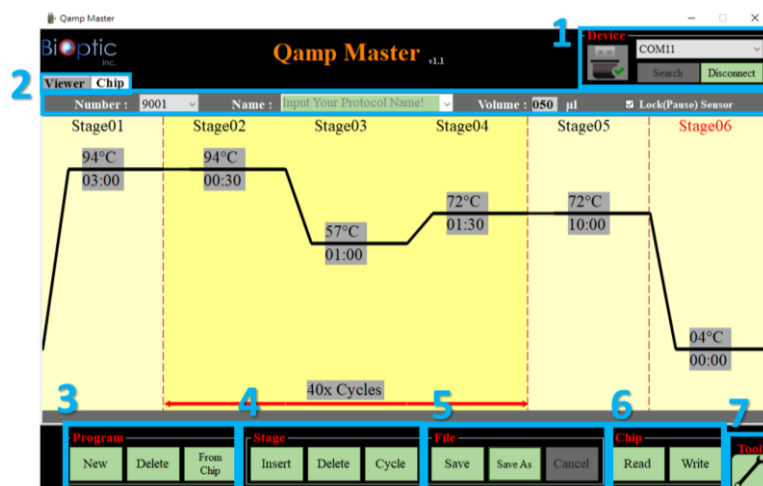

Figure 12. The main interface of *Qamp* Master after reading the Programmable Chip
- **Viewer/ Chip Tab:** Switch the view of program from database or the Programmable Chip (the chip tap only shows after reading the Programmable Chip) (Figure 12)